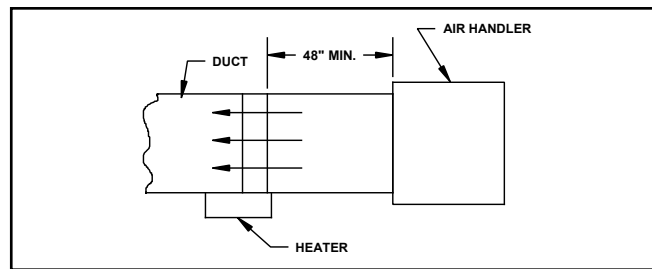

FIGURE 3.1.4 PLACEMENT: DOWNSTREAM REQUIREMENTS
8. Always locate the heater at least 48" downstream from an air handler. (See Figure 3.1.4)